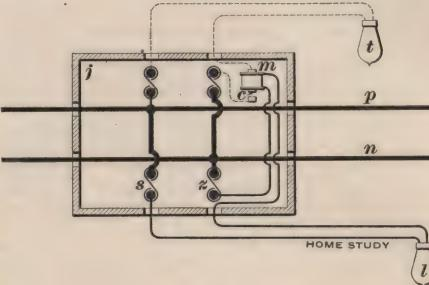

FIG. 1.
(28) I have one 80-volt lamp taking 0.8 ampere, connected up as shown by the full lines in Fig. 1, *p* and *n* being the mains, *j* a junction-box, and *s* *z* being the branch-circuit to the lamp *l*. I wish to know how to wire up another lamp *t* in the next room, so that it will light up when the first lamp *l* burns out, or either one of the fuses *s* or *z* blow; but I do not wish the lamp *t* to burn when the lamp *l* is all right. The wires should all be lead from the junction-box *j*, which is water-tight. R. C., Eastport, Md.
ANS.—The object may be accomplished by putting an electro-magnet *m*, as shown in Fig. 1, in circuit